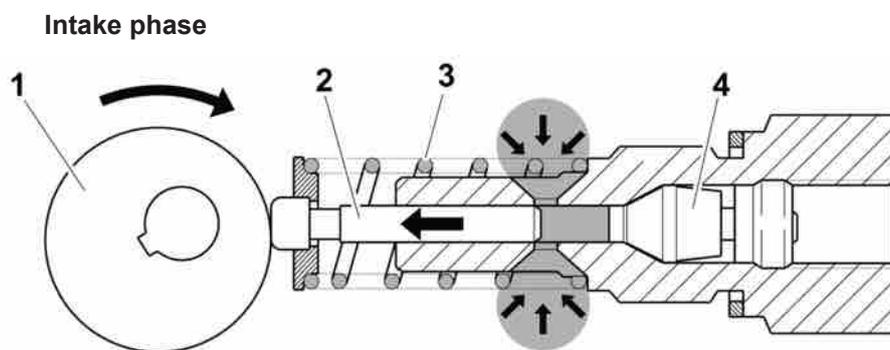

Fig. 5 - The pump element draws in lubricant
- Electric motor runs the eccentric, see fig. 5 and 6
- This occurs while the pump is running, see fig. 5